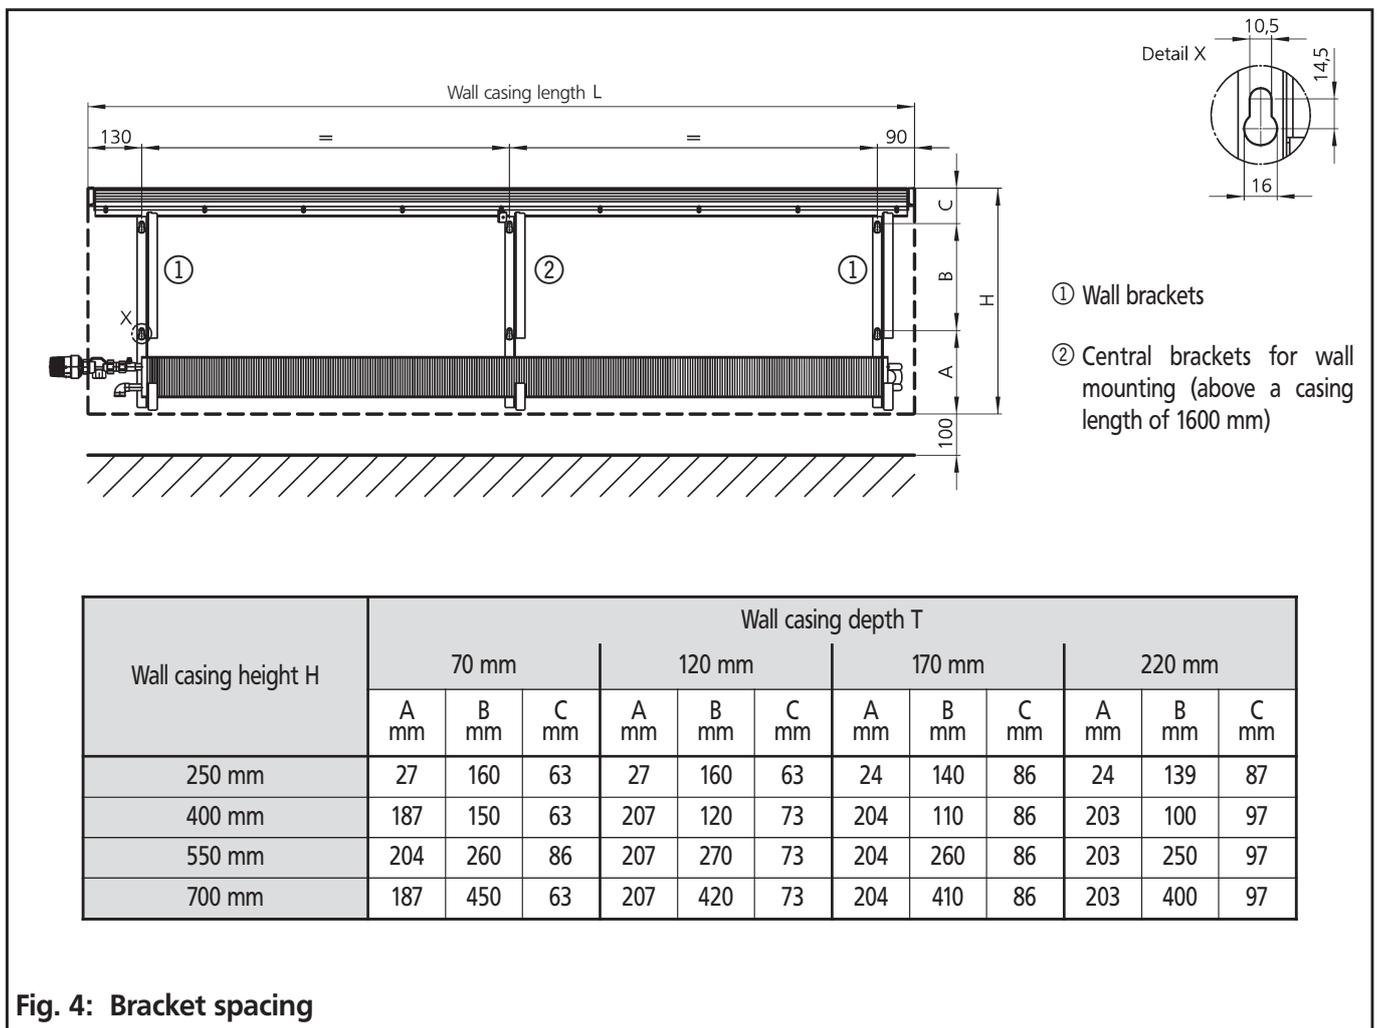

Fig. 4: Bracket spacing
- Using the wall brackets ①, mark the drill holes for wall-mounting the unit. Calculate the spacing, as given in Fig. 4, using the table below.
- A further wall bracket ② is needed as a central bracket for casing lengths of greater than 1600 mm. Position the brackets centrally between the drill holes for the outer brackets and also draw in the drill holes.